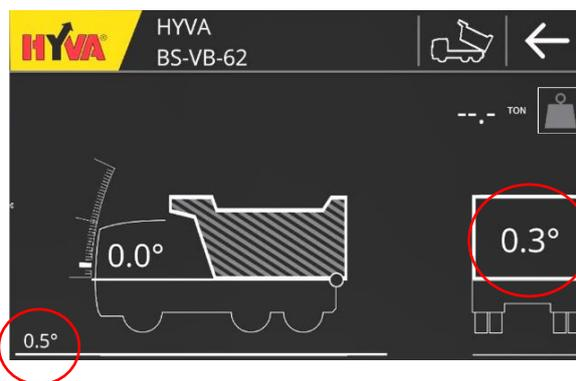

FIGURE 19 DASHBOARD
- Once the body is back at rest the dashboard will show the situation in Figure 19.
When the body is at rest the dashboard looks like Figure 19.